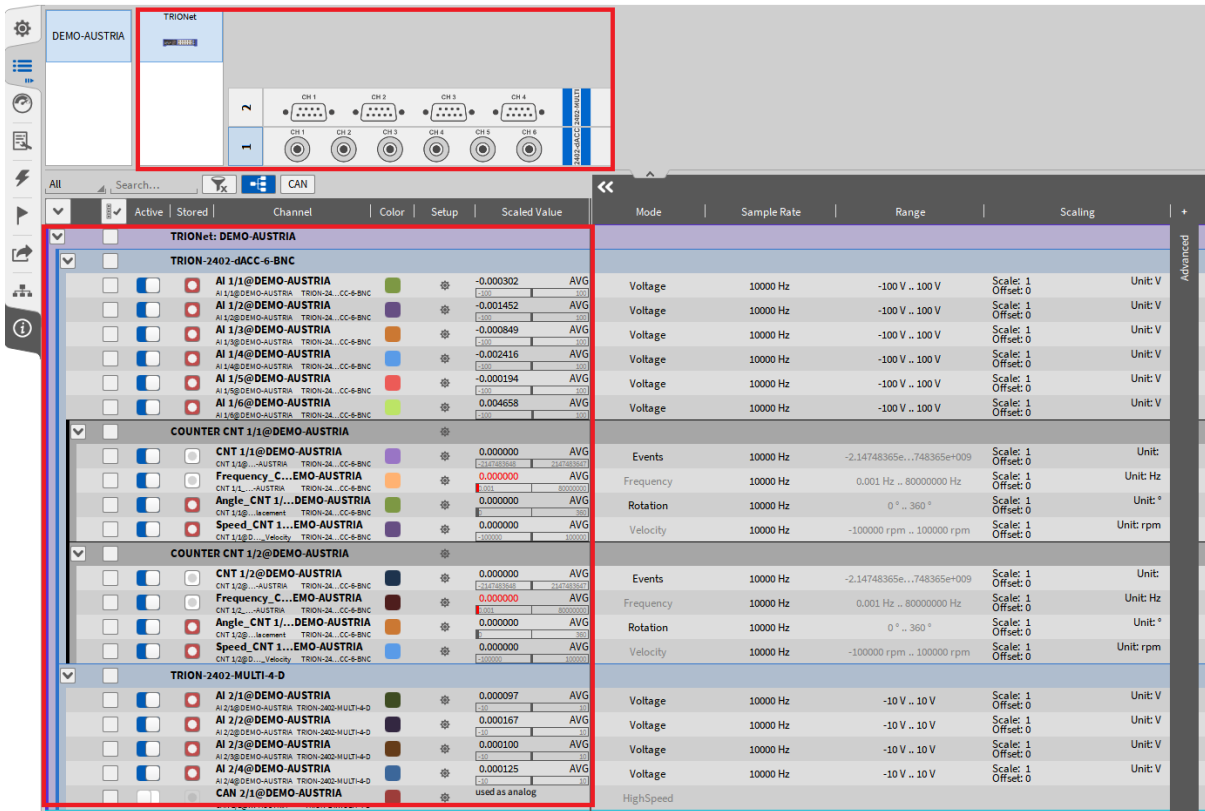

Figure 2-11: Overview of connected TRION™ hardware in the Channel List
- The channels of the connected TRION™ hardware will now be visible and editable in the Channel List (see Figure 2-11):